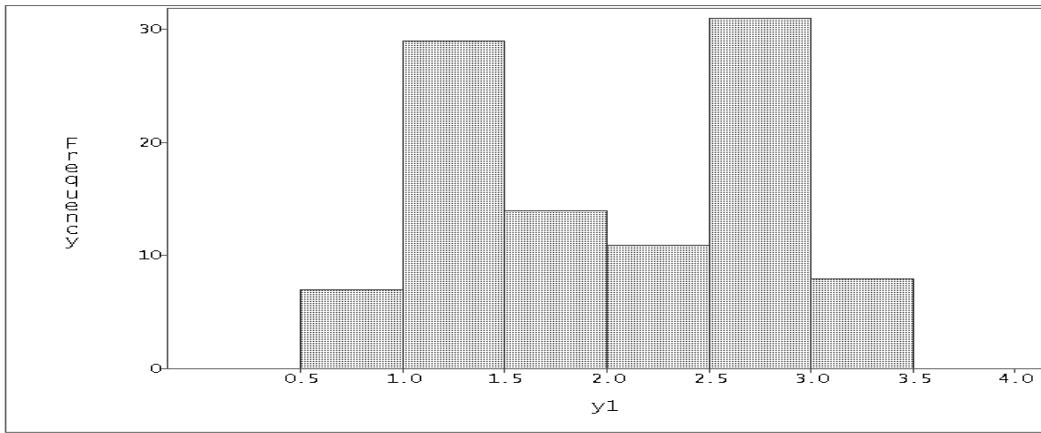
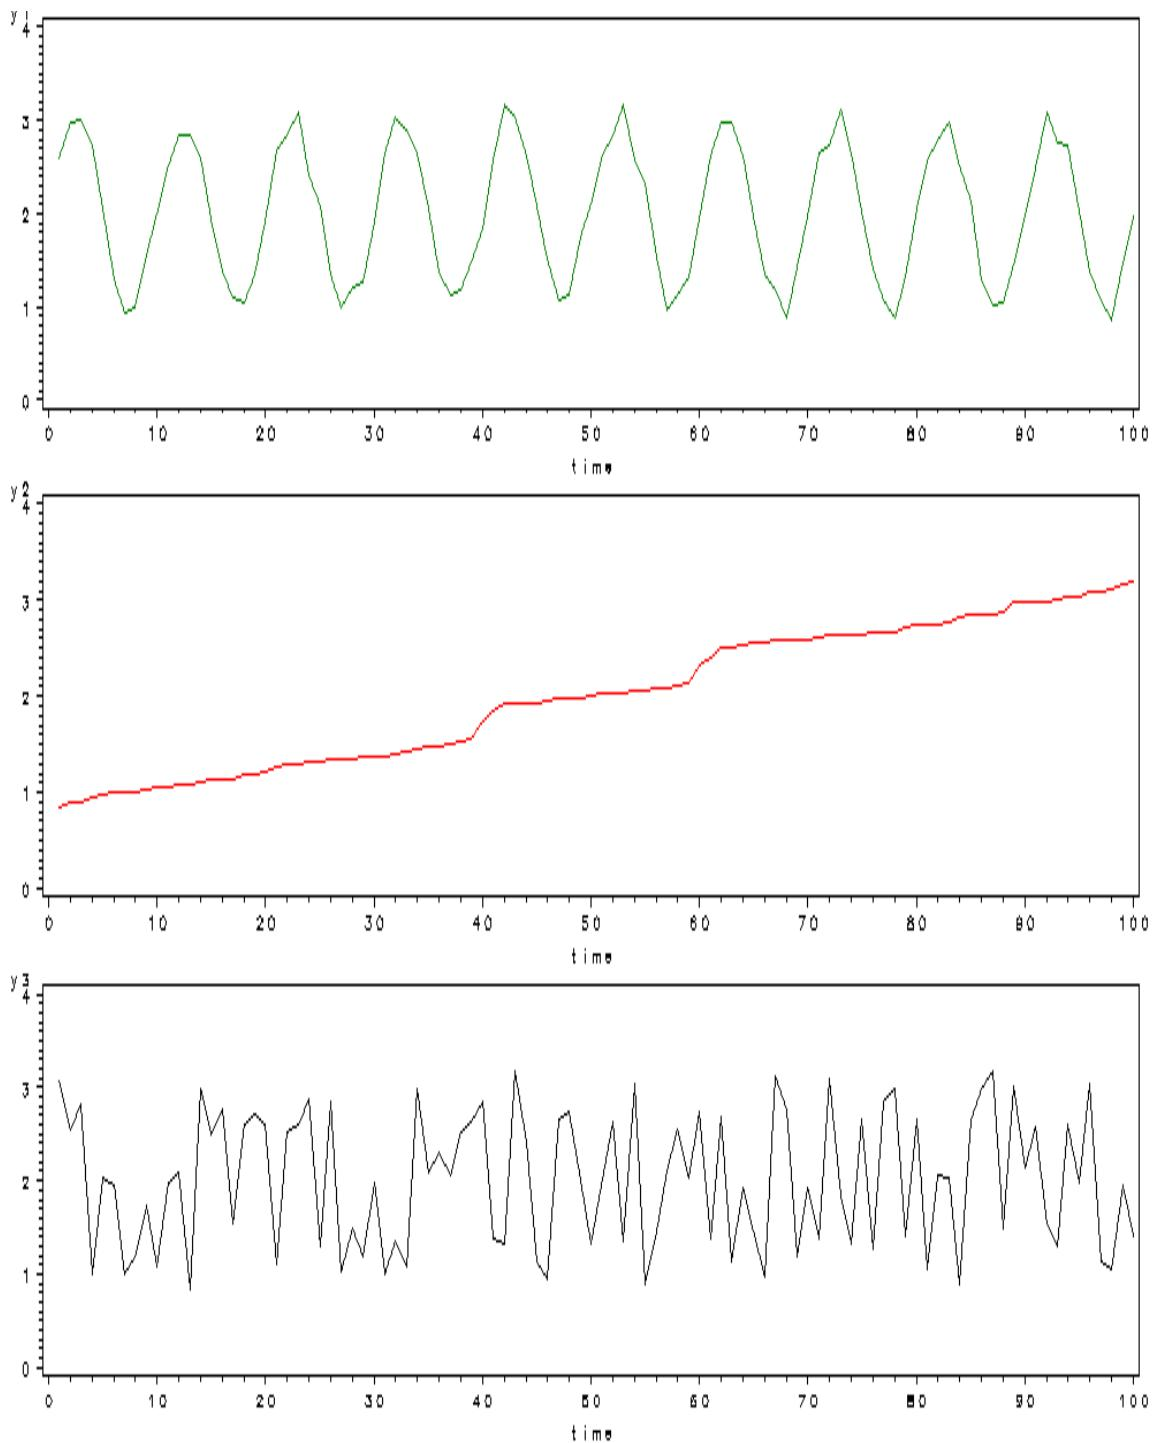

Figure 3: Histogram of some simulated data.
Figure 4: Three possible time series plots for the simulated data.
- o To assess stationarity data must be plotted versus time. Figure 3 shows a histogram of some simulated data:
The histogram in Figure 3 will always look the same regardless of the order in which the data were taken. Figure 4 shows three possible plots of these same data, obtained by rearranging the order in which the data are plotted. These three plots tell very different stories about the process that produced the data. This example shows that to properly analyze data taken over time, it is necessary to plot the data versus time.